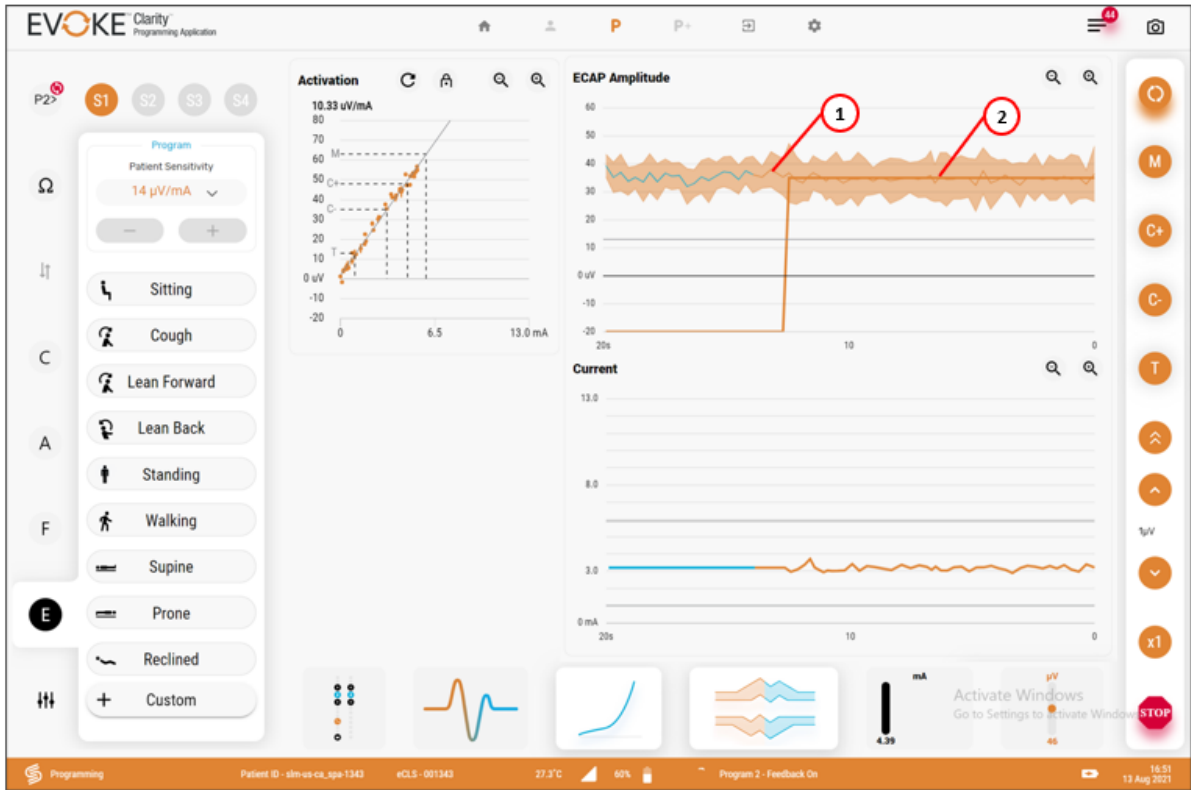

Figure 6.46: Evaluation tab showing transition from closed-loop disabled to closed-loop enabled in the Rolling Plot display.
3. When closed-loop is enabled, the ECAP amplitude rolling plot and Current rolling plot line graphs will change from **blue** to **orange** (Figure 6.46). Various elements and buttons on the CPA will also turn **orange** to signal that closed-loop is enabled. The current will also vary over time. The ECAP amplitude will vary around the target. If the ECAP variability is increased after closed-loop is enabled:
4. Monitor the rolling plot through various postures. Ask the patient to move into various postures such as sitting, standing and lying on their back (supine) while you watch the rolling plot to see how the closed-loop control responds. The ECAP amplitude will show some variability, but the average ECAP amplitude should track the target level, and changes in current should track the patient’s movement (Figure 6.46). If they don’t, you may need to adjust the acquisition or filter settings (see Section 6.4.5 and 6.4.6 respectively).